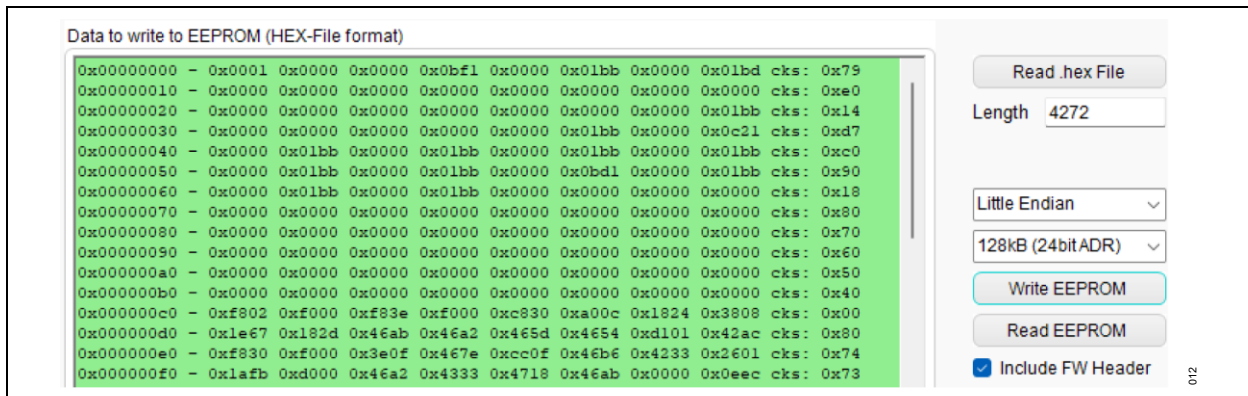

Figure 11. Data to Write to EEPROM Window in GUI after Write is Complete
- Click the **Write EEPROM** button to write the information to the EEPROM. The background of the left window turns bright green when data has been programmed. See Figure 11.